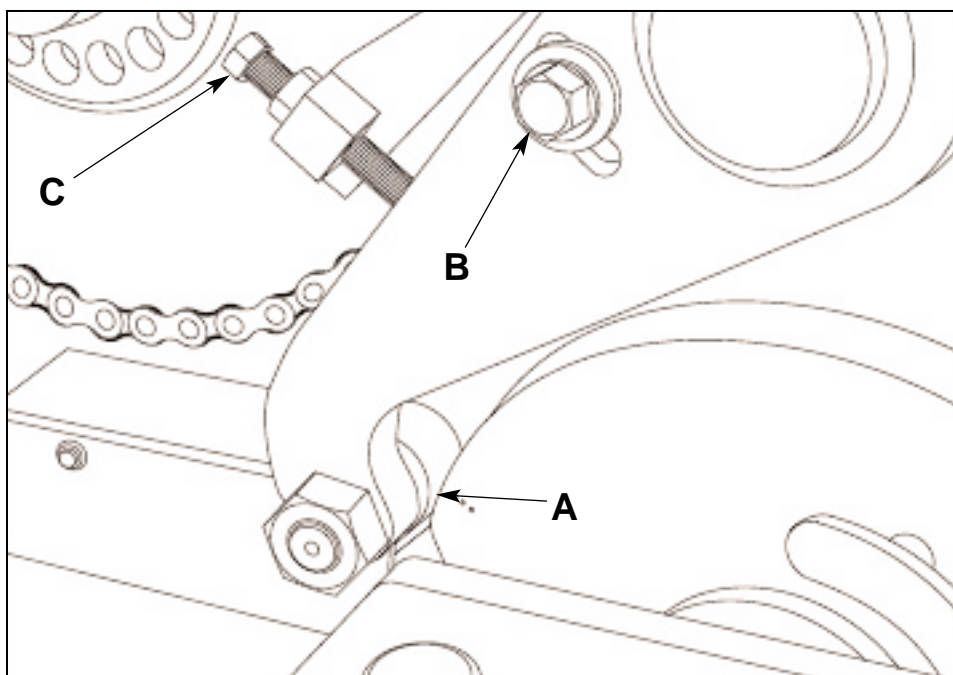

Figure 6.22 BLOCK LOWERING ARM ADJUSTMENT.
6.2.13 Rotate block delivery drive CCW until punch marks on high part of cam align with the center of the roller (A) (see figure 6.22).